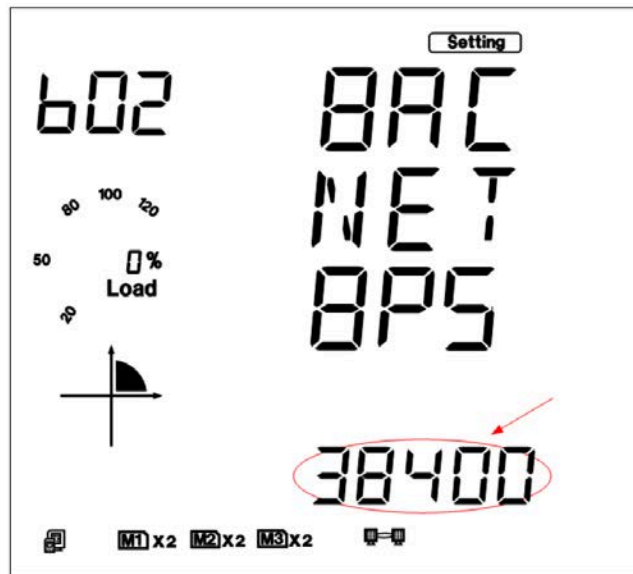

Fig 5-83
i). Set BACnet/IP port in the seventh setting page, such as 47808. Press the "V/ A" key to go to the setting page. Users may set the parameters pointed out in Fig 5-83. The cursor starts at the first digit. The BACnet/IP port's default value is 47808, and the user defined range of port is 1~65535. After setting the BACnet/ IP port, press the "V/A" key to accept. Press the "P" key to go to the eighth setting page for the BACnet RESET.